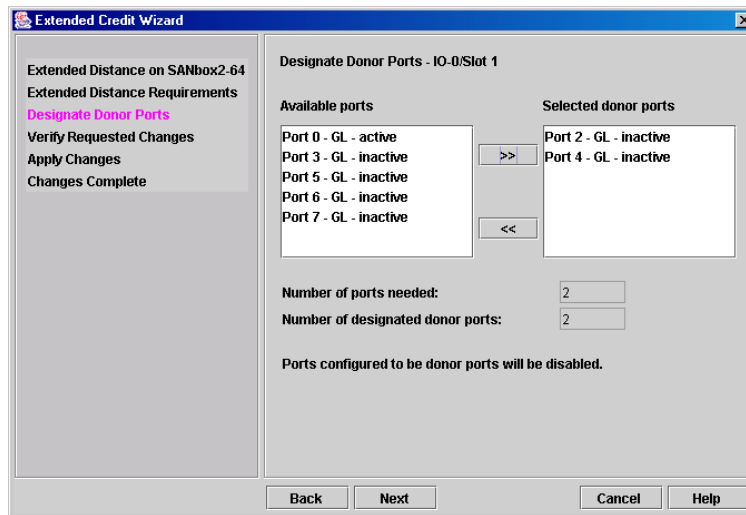

Figure 6-3. Designate Donor Ports
3. Designate Donor Ports: Select available ports and choose >> to move the port into the Selected Donor Port column shown in Figure 6-3. Match the number of ports needed with the number of designated donor ports. The port receiving the credits and the donor ports must reside on the same I/O blade. Choose **Next**.